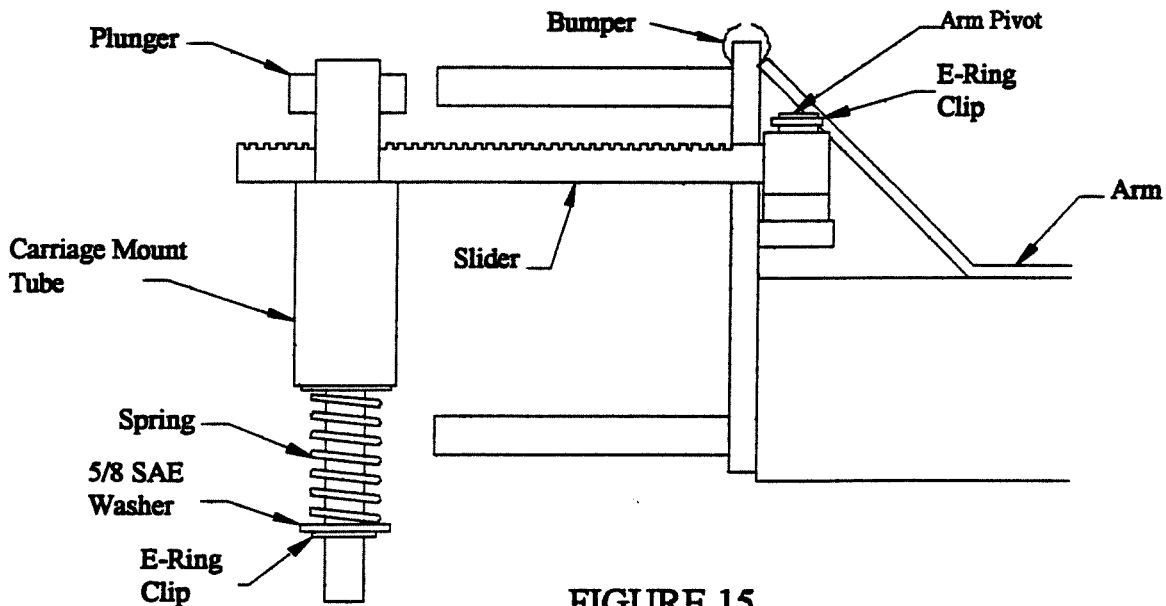

FIGURE 15
34. Install the swing arm slide locks as shown in Figure 15. The 11" sliders are installed on the short swing arms.
37. Raise the lift to the top of its travel and lower it the floor three (3) times (WITHOUT A CAR) to remove the last air from the hydraulic system.
38. Install the rubber bumper strips on the tops of the long swing arms using the foam tape strips. Figure 15 on previous page.